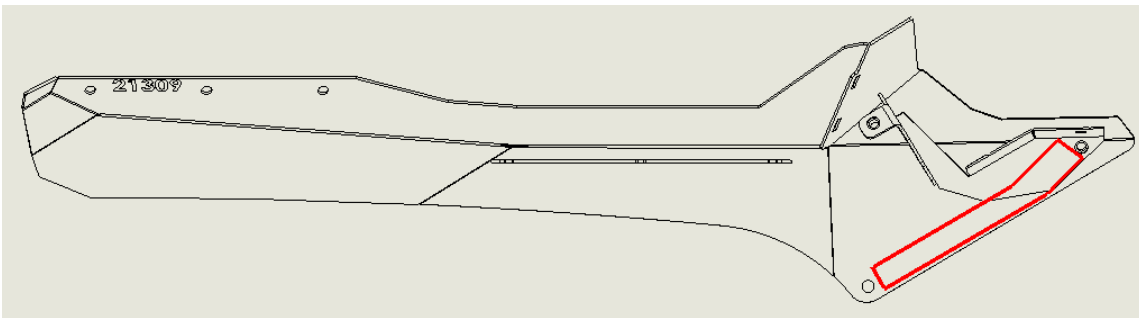

Fig 12
- d. Install the 1" neoprene rubber strip to the inside of both arms as shown in **Fig 12** highlighted in red.
- b. Loosely install the $\frac{3}{8}$ "-16 hex bolt, zinc lock washer, and zinc flat washer through the lower hinge bracket and into the arm securing the ViCowl from falling lower on the vehicle as indicated in Fig 12 with the black arrow.